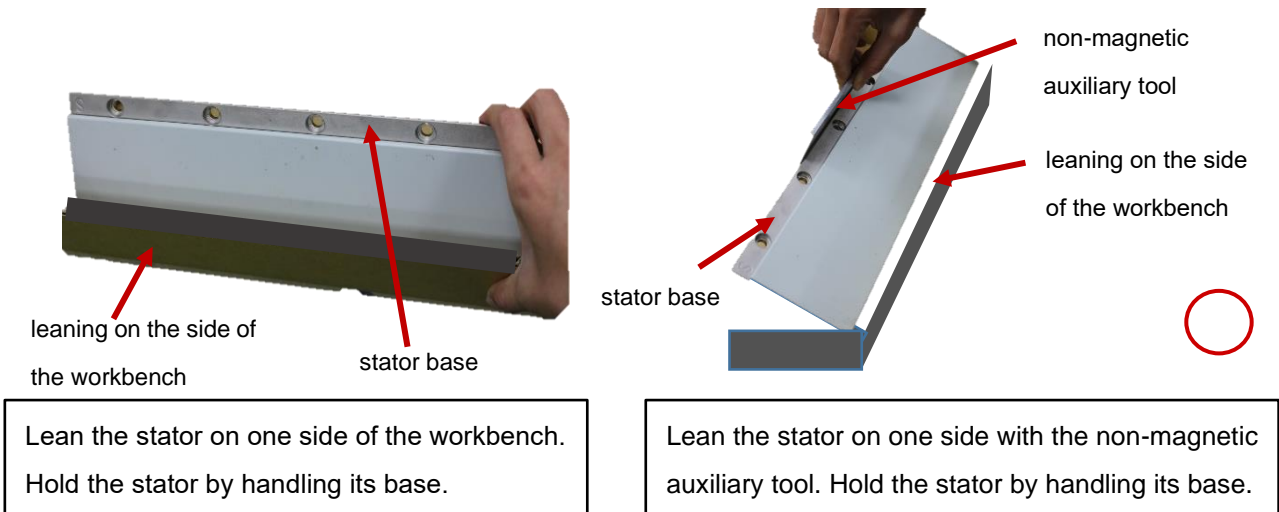

Figure 5.1-1 Correct method of handling the stator
- ▶ Please correctly take the stator to prevent personnel from injury or the stator from being damaged. (refer to Figure 5.1-1).